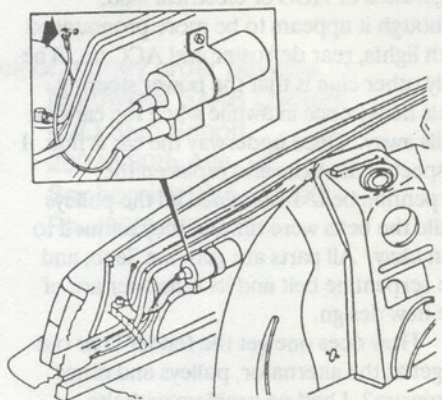

Fig 2. Drill a 3mm hole in the RH inner fender.
5. Drill a 3mm hole in the RH inner fender as shown in Figure 2.